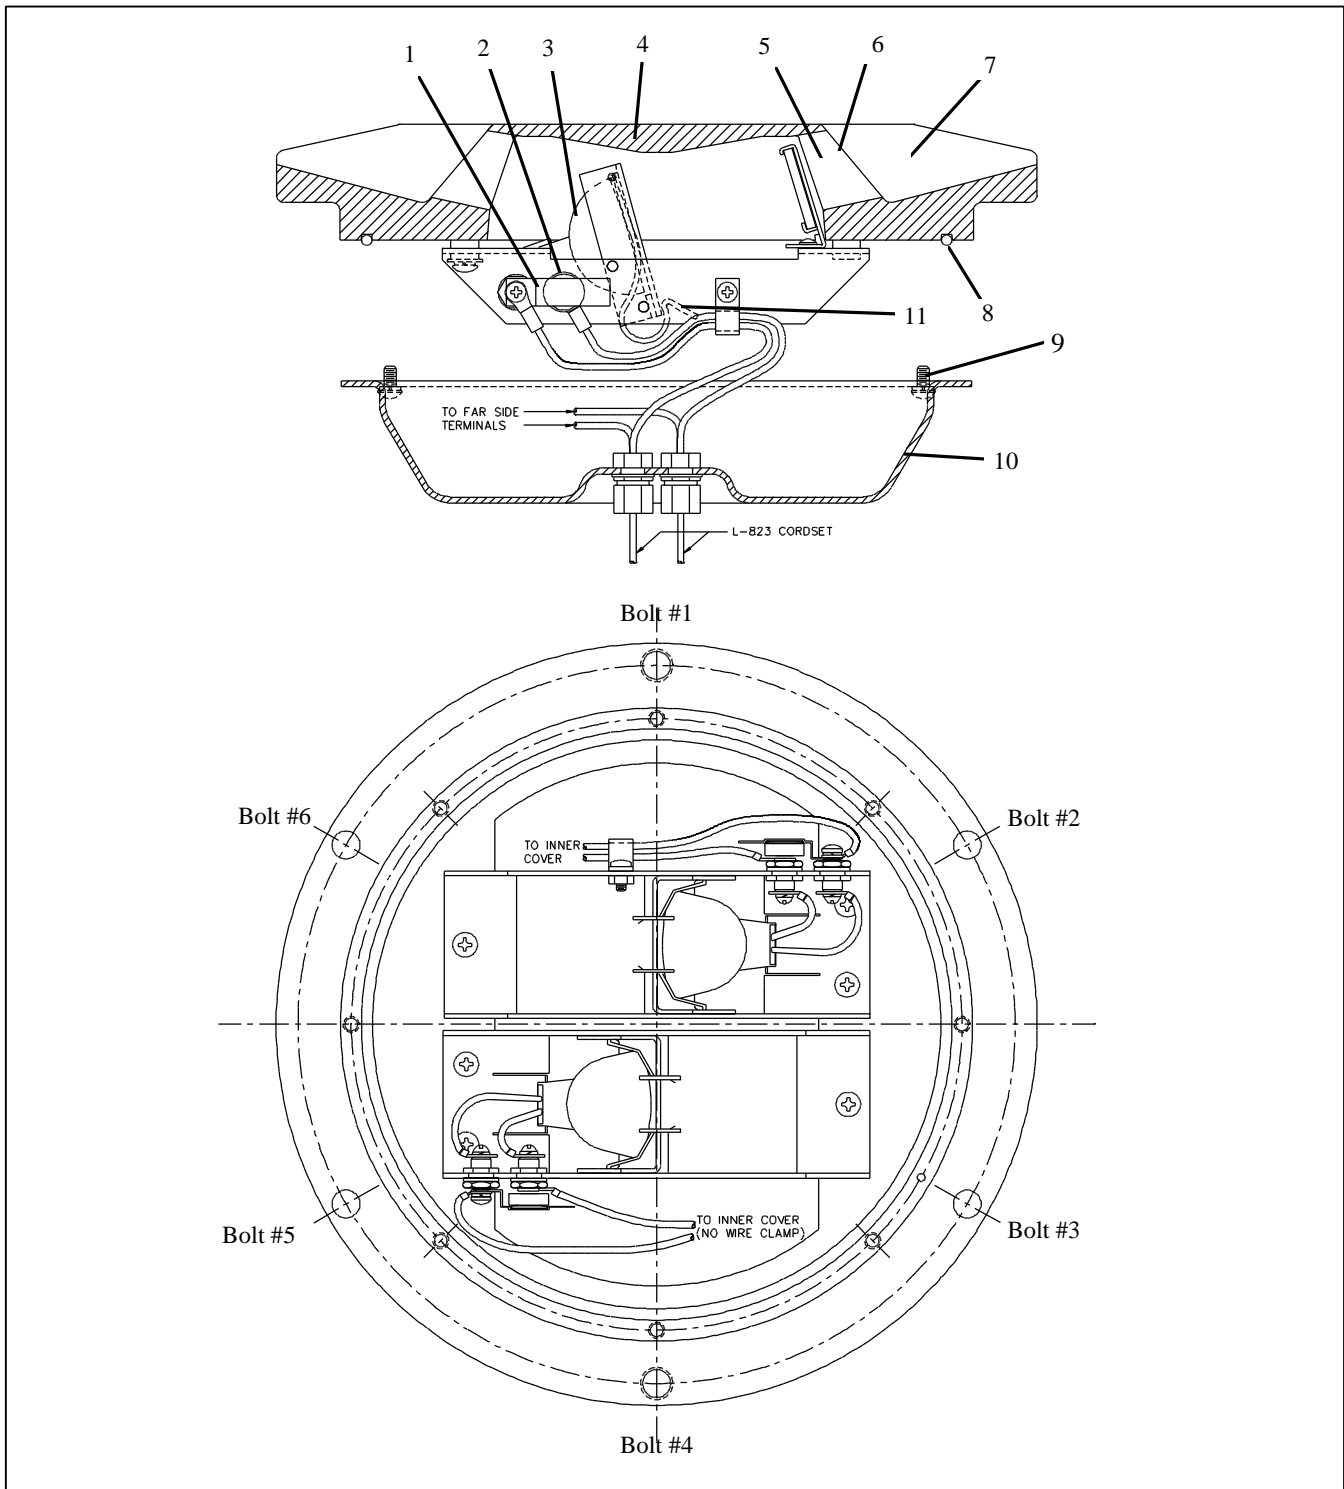

Figure 3. Cutaway View of Optical Assembly
1. See Figure 3. Use a suitable fiber brush to remove all accumulated debris from the light channel (7).
See Figure 3. To torque the outer bolts across corners, tighten bolts in noted sequence: #1 and #4, then #2 and #5, then #3 and #6.
3. See Figure 3. Turn the fixture upside down and remove the eight pan-head screws (9) holding the inner cover to the top cover assembly.
**NOTE:** The inner cover assembly (10) can now be separated from the top outer cover assembly (4). The inner cover assembly can now be moved from side to side to allow for lamp removal without having to adjust slack in the cordset.
4. Flip the holddown spring clip (11) off the lamp assembly (3), and pull the lamp assembly horizontally forward out of the socket.
6. Replace the film disc cutout (2) (if used) from the inner cover assembly. To remove the cutout, perform the following procedure:
- a) Loosen the screw that secures the wire lead to the feed-thru, and rotate the cutout clip (1) free from the top of the cutout.